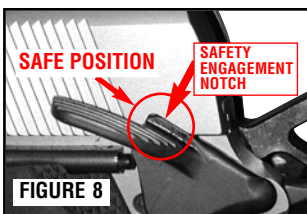
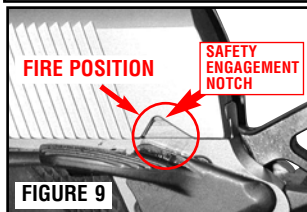

FIGURE 8
FIGURE 9
- Familiarize yourself with the safety lever on your pistol. When the safety lever is fully down as shown (Figure 8 (notice NO engagement between safety lever and Safety Engagement Notch), it is in the "fire" position; when the safety lever is fully up, as shown in Figure 5 (notice FULL engagement between safety lever and Safety Engagement Notch), it is in the "safe" position. It can only be placed in the "safe" position when the hammer is fully cocked (Figure 9).